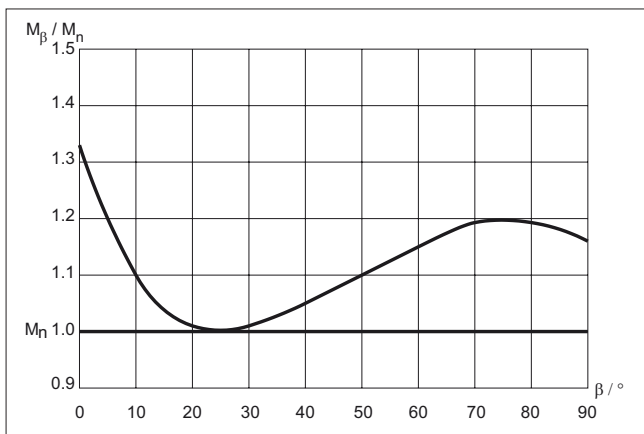

Fig. 3 Output torque as a function of turning angle
There are two adjustable stop screws in the actuator; these stop the movement of the secondary shaft in the extreme positions. The actuator generates a torque of approximately 1.3 times the nominal torque when the piston is at the upper end of the cylinder, see also Fig. 3. For some valves, e.g. butterfly valve, the closing torque and position is accurate. The stop screw (26) at the cylinder end has to be adjusted according to right instructions, see separate valve specific instructions for more detailed information. An O-ring (33A) is used for sealing the stop screw in the cylinder end. See also the instructions of the valve.